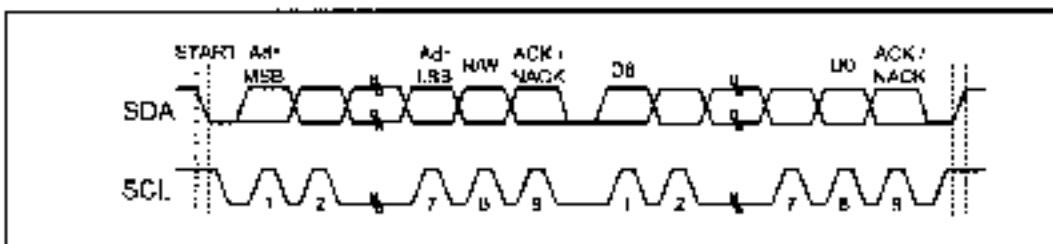

Figure 18-7. Typical Data Transmission
**STOP condition.** Figure 18-7 shows a typical data transmission. Try to understand each element in the figure (see Example 18-4).